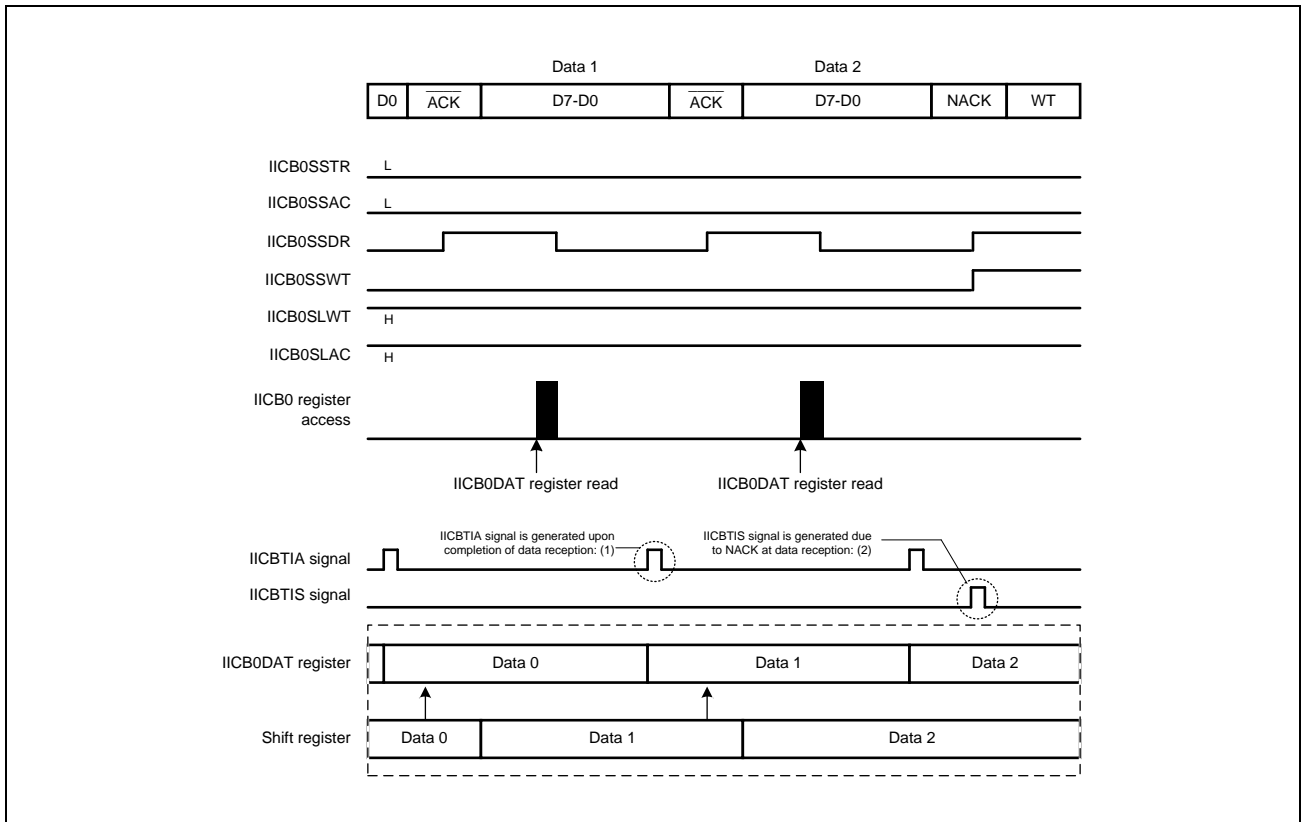

Figure 29.7-1 IICBTIA Signal Generation Timing (Reception, Continuous Transfer Mode)
When the receive data is stored from the shift register to the IICB0DAT register (**Figure 29.7-1**, timing (1))